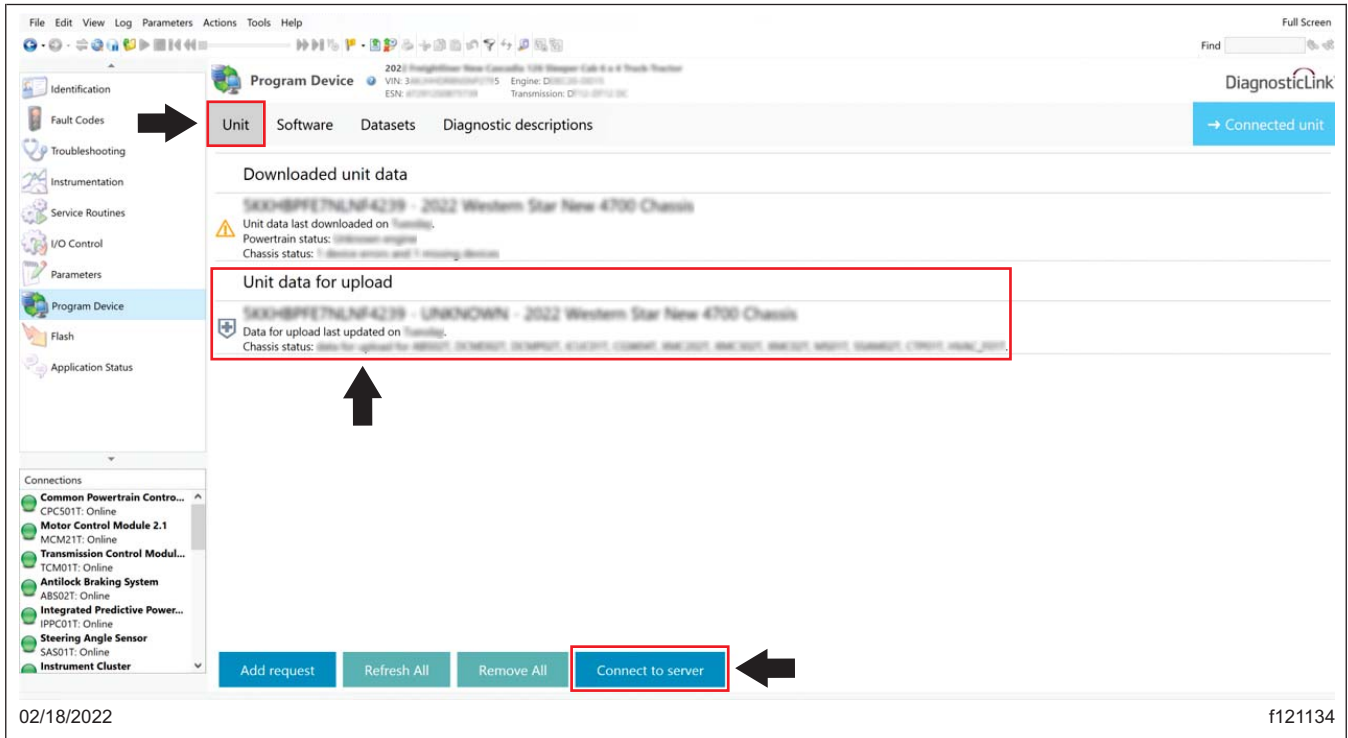

Fig. 4, Uploading ECU Parameters to Server
6.3 Unit data should now be available to upload, as shown in Fig. 4. They are the parameters of the vehicle ECU's that were read in substep 6.1.